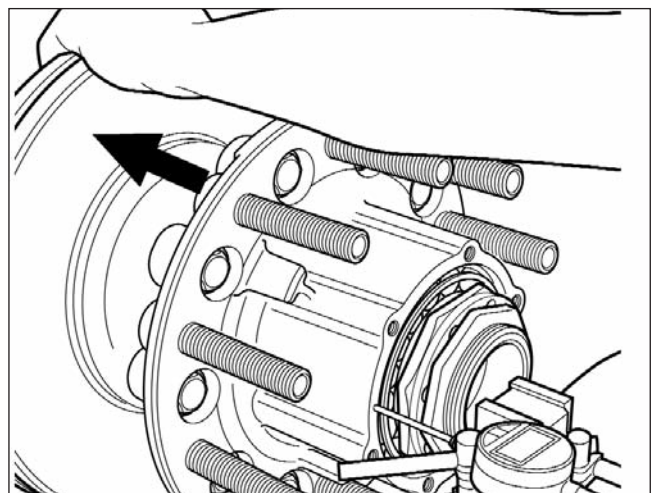

Fig. 4.19
- B. Slightly rotate the wheel end in both directions while pushing inward until the dial indicator does not change. Set the dial indicator to ZERO. (Fig. 4.19).